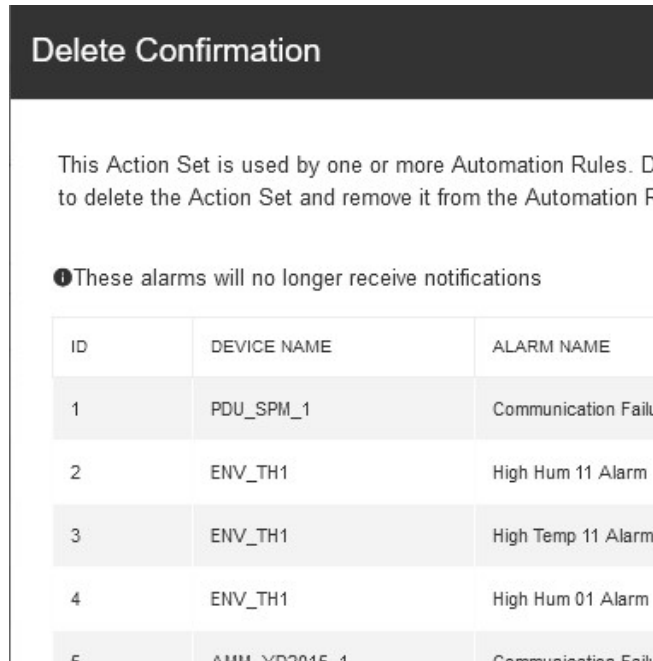

Figure 16-24 Delete Confirmation dialog box
1. On the **Action Sets** page, click  in the row of the action set to be deleted. In the pop-up shortcut menu, select **Delete**. The page as shown in Figure 16-24 is displayed.